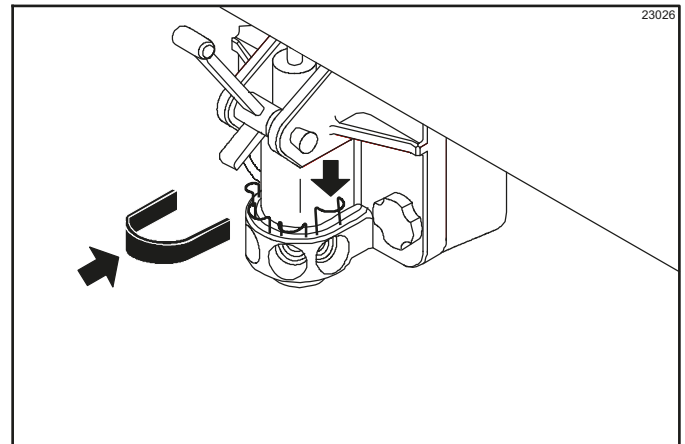

Figure 6-21
20. Insert the syrup-valve retainers and push them down. Install the syrup-valve pin retainer. (See Figure 6-21.)